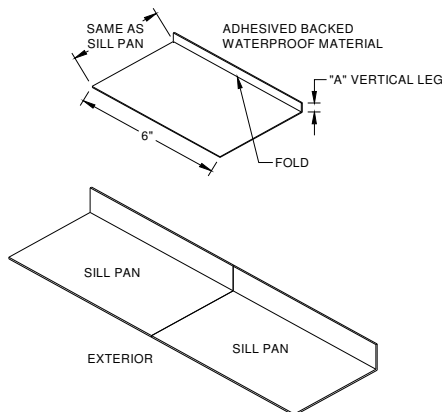

Figure 17:
- Cut a piece of adhesive backed waterproof material to fit the joint as specified in Figure 17, $A=1/4"$. Select waterproofing material that is compatible for your application. Waterproofing material must have an adhesive backing and be capable of withstanding the temperature ranges for your region (Figure 18).